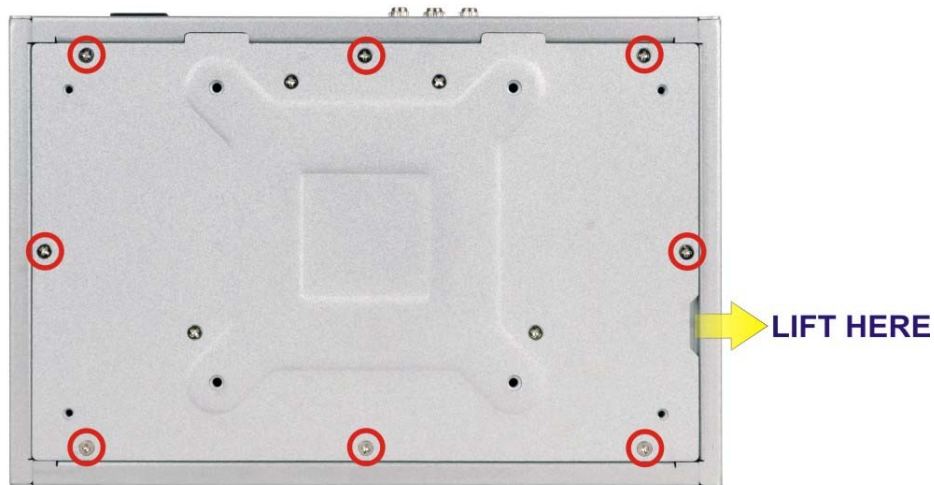

Figure 3-1: Bottom Surface Retention Screws
Step 1: Remove the bottom surface retention screws. The bottom surface is secured to the chassis with eight (8) retention screws (**Figure 3-1**). All eight (8) screws must be removed.